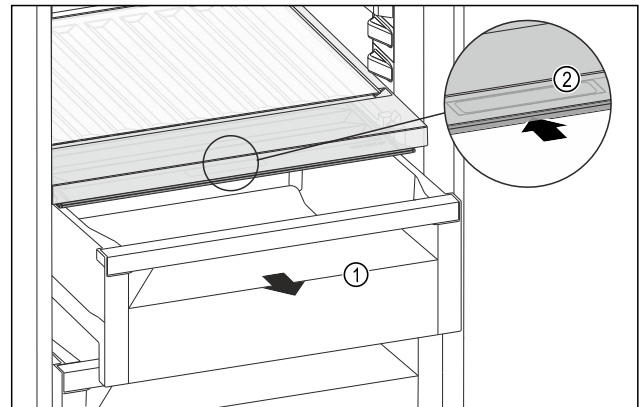

Fig. 229
- ▶ Pull out the drawer Fig. 229 (1).